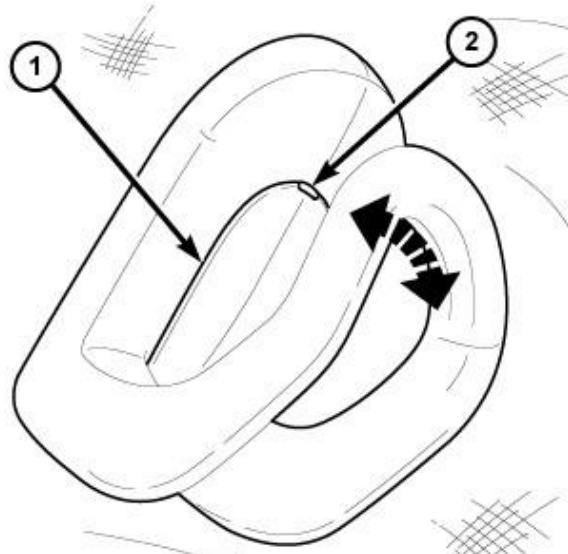

Figure 60 – Coat Hook
30. Using a small flat bladed tool, open the coat hook screw cover (2) then remove the screw and coat hook (Figure 60).
47. Position the coat hooks (5) onto the headliner and install the screws tightening securely into the mounting clips then close the screw cap fully (Figure 60).